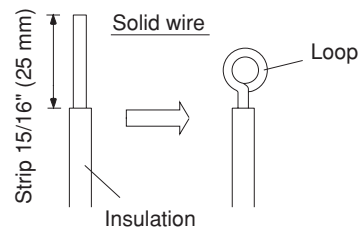

**Fig. 28**
- (1) Cut the wire end with a cutting pliers, then strip the insulation to expose the wire about 9/32" (7 mm). See the label (Fig. 28) near the terminal plate.
- (2) Using a screwdriver, loosen the terminal screw on the terminal plate.
- (3) Insert the wire and tighten the terminal screw completely using a screwdriver.